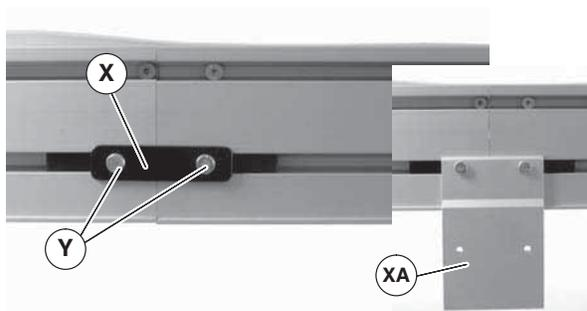

Figure 8
- Join additional conveyor sections if necessary and install connector brackets (Figure 8, item X) or connector/mount brackets (XA) and screws (Y) on both sides as indicated. Tighten screws to 60 in-lb (7 Nm).